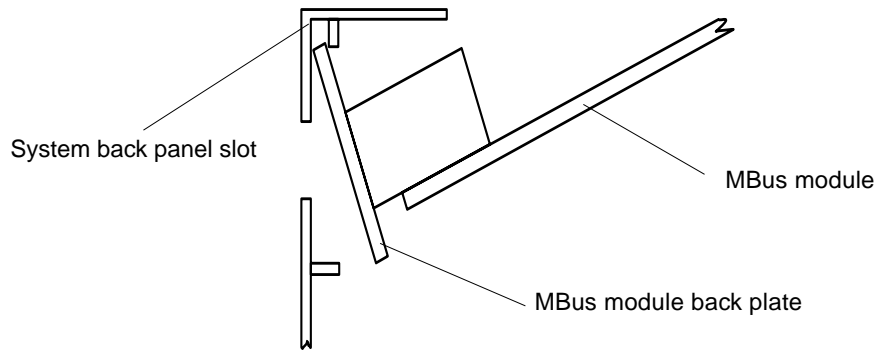

FIGURE 11-9 Seating a Double-Wide MBus Module back Plate, Side View
2. Insert the MBus module back plate into the system back panel; hook the MBus module back plate into the back panel slot (FIGURE 11-9).